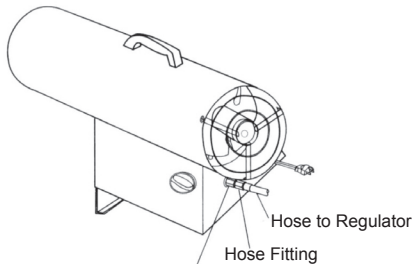

FIGURE 1 Connector Inlet
2. Connect hose to heater inlet. (See Figure 1). Tighten firmly using a wrench. You must use the regulator supplied with heater.